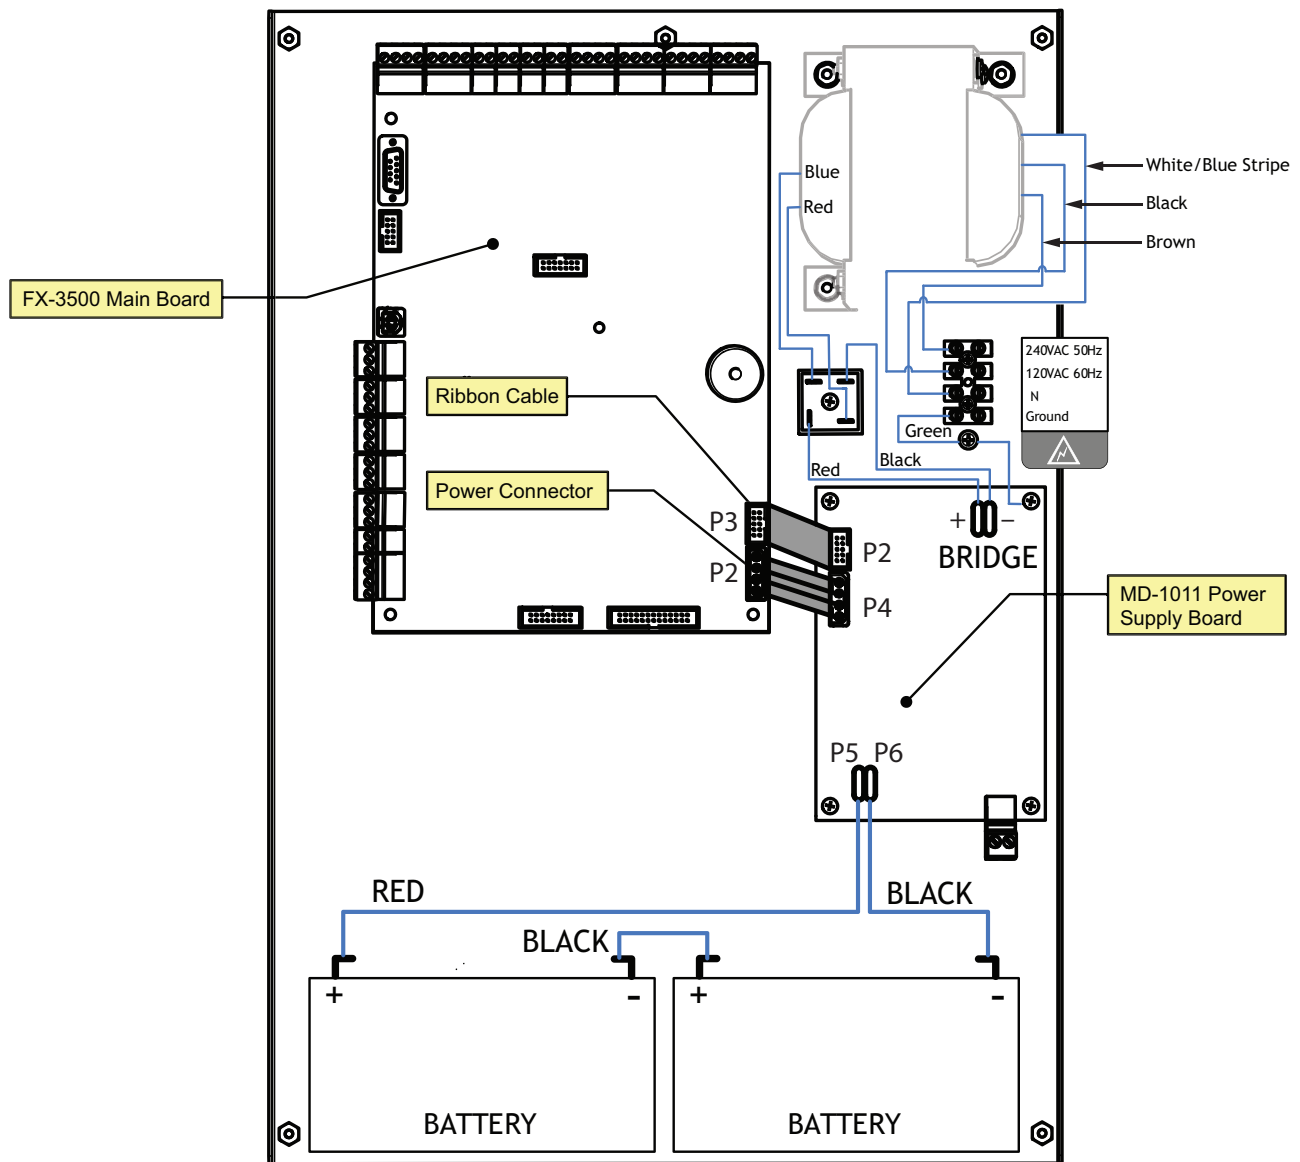

Figure 29 Main Power Supply Wiring and Connections
Wire the Power Supply as shown in Figure 29 and adhere to the following:
- Wire the AC power to the AC wiring terminals as shown in Figure 29 using the proper wire gauge with 600 volt insulation and proper over current circuit protection that complies with local codes.